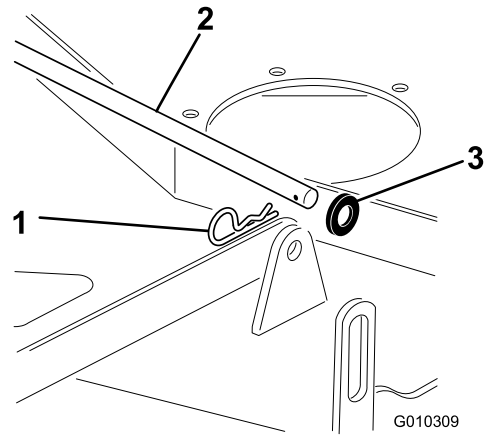

Figure 69
1. Remove the hair pin cotter and washer securing the long, link bar to the frame and deck; remove the link bar (Figure 69).
8. Install the long, link bar through the frame hanger and deck. Secure the link bar with the hair pin cotters and washers removed previously (Figure 69).